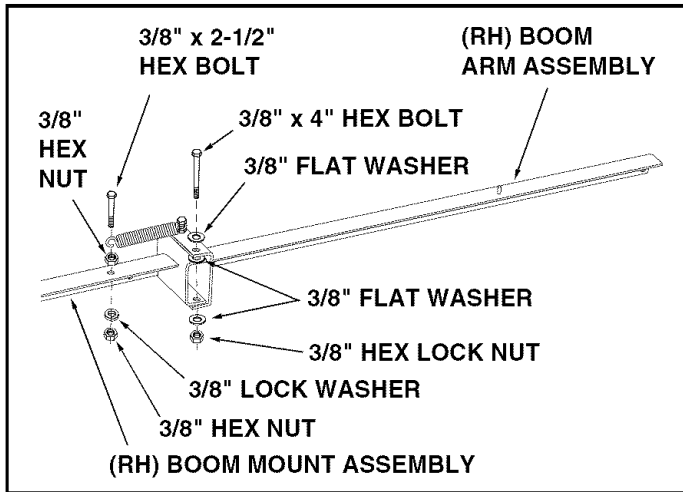

FIGURE 11 (RH) SIDE VIEWED FROM REAR
19. Attach the (RH) boom arm assembly to the (RH) boom mount assembly as shown in figure 11, using a 3/8" x 4" hex bolt, three 3/8" flat washers, and one 3/8" hex lock nut. Do not overtighten.
20. Place a 3/8" x 2-1/2" hex bolt through the loose end of the spring and then assemble a 3/8" hex nut onto the bolt. Fasten the hex bolt to the boom mount assembly using a 3/8" lock washer and 3/8" hex nut. **Tighten** the nuts, exposing one or two threads on the end of the bolt. See figure 11.
21. Repeat steps 19 and 20 for the (LH) boom arm assembly.